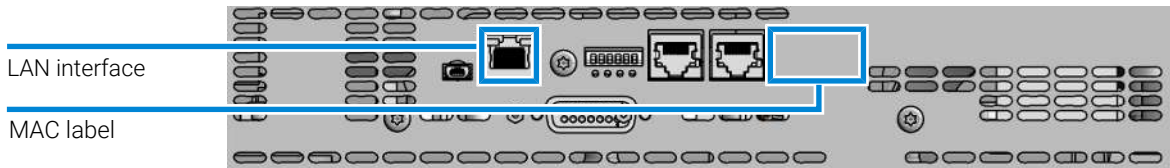

Figure 27: Location of LAN interfaces and MAC label
- 1 Note the MAC (Media Access Control) address for further reference. The MAC or hardware address of the LAN interfaces is a world wide unique identifier. No other network device will have the same hardware address. The MAC address can be found on a label at the rear of the module underneath the configuration switch (see Figure 27 on page 250).